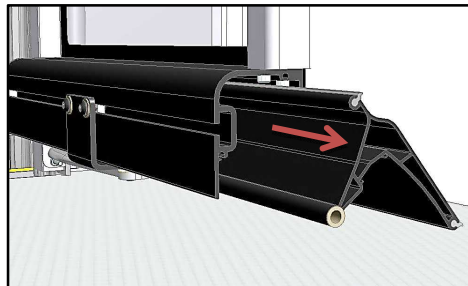

Fig. 4
- The flap can be pulled out (Fig. 4)